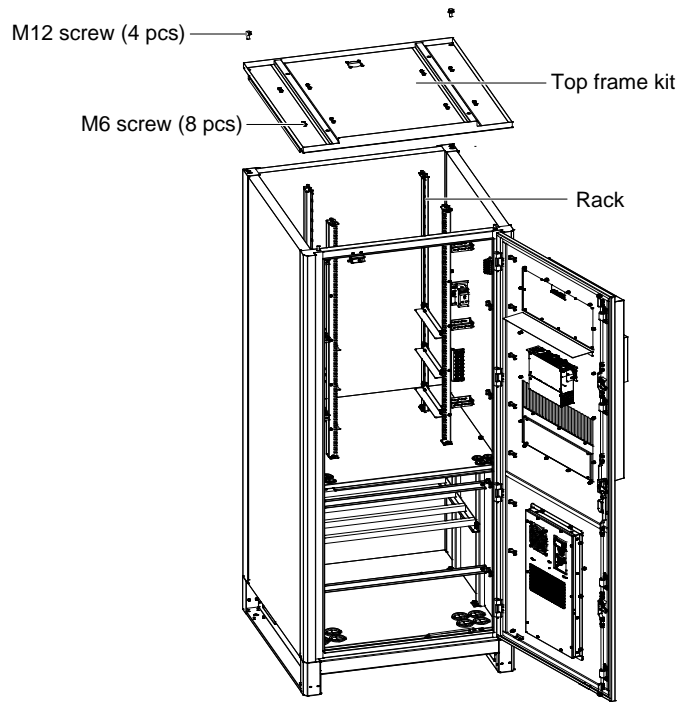

Figure 2-9 Disassembling top frame kit
- 2) Remove the two M12 screws used to fix the rear part of the top frame kit from the top of the cabinet, and then remove the top frame kit, as shown in Figure 2-9.